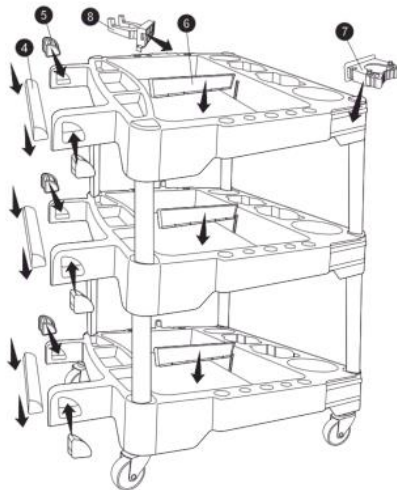

Fig. 6
7. Slide the three handles (4) from one side into position and attach the remaining end caps to secure the handles.
8. Snap the hook (8) into the carabiner and insert the holder (7) into the slide.
9. Insert the baffles (6) into the center of each tray (Fig. 6).